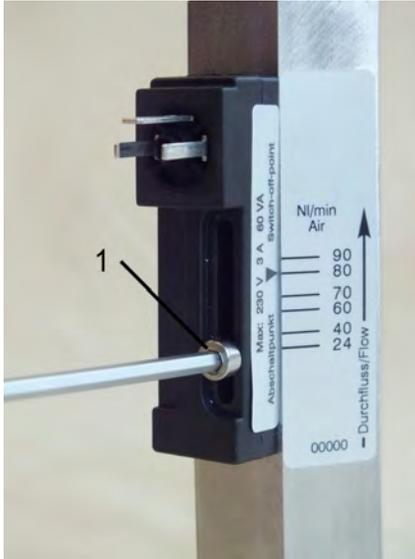

Fig. 32: Loosen the set screw
1. ➤ Loosen the set screw of the switch contact ( Fig. 32/1) using a Hex-Screwdriver screwdriver.
3. ➤ Re-tighten the set screw of the switch contact ( Fig. 32/1) using a Hex-Screwdriver. When doing so, observe the correct tightening torque of the screw.